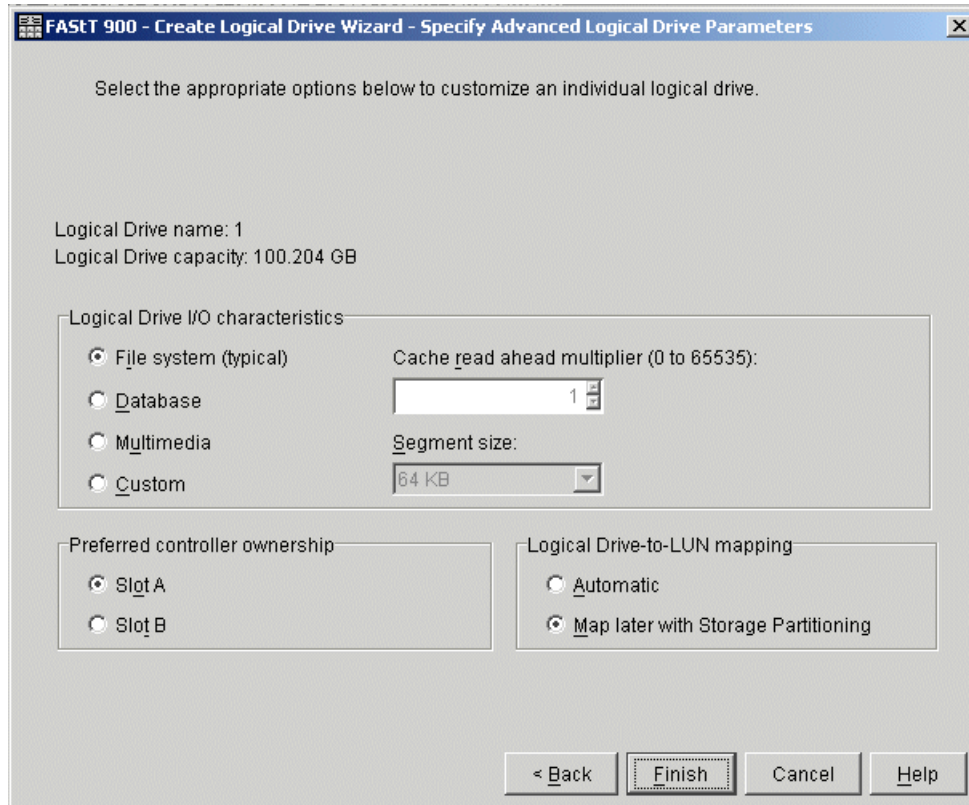

Figure 5-29 Advanced logical drive settings
5. On the Specify Advanced Logical Drive Parameters panel (see Figure 5-29 on page 149) you can define the logical drive to exactly fit your needs: